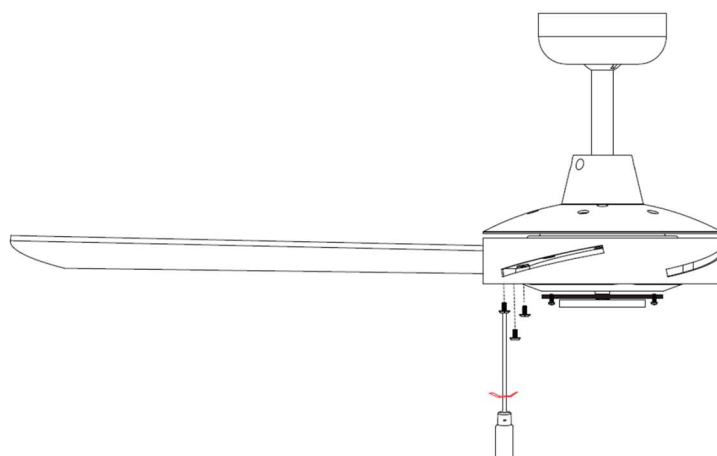

Fig. 5B
2. Secure the blades with 3 blade screws. Ensure all screws are tightened evenly to reduce the chance of warping or unbalancing. Repeat this process for all blades. (Fig.5B)